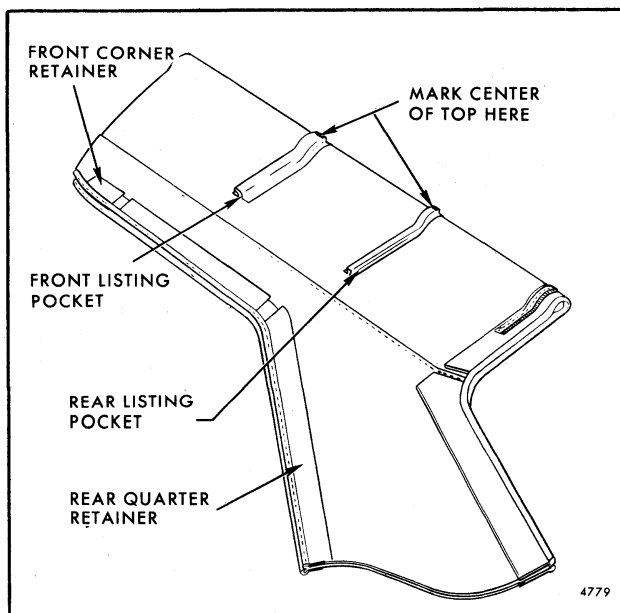

Fig. 8-93-Determining Center of Top Cover
4. Fold replacement top cover assembly in half as shown in Figure 8-93. Determine precise centerline of top cover and carefully mark center of top cover on listings for front bow and center bow.
3. Fold replacement top cover in half as shown in Figure 8-93. Determine precise centerline of top cover and carefully mark center of top cover on listings for front and center bows.